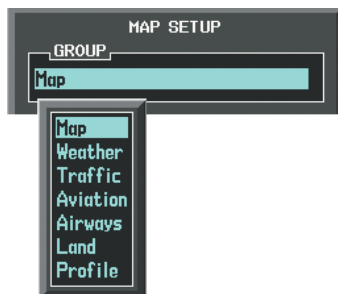

Figure 6-121 Navigation Map Page Setup Menu
- 4) Turn the small **FMS** Knob to select the 'Map' Group and press the **ENT** Key (Figure 6-121).